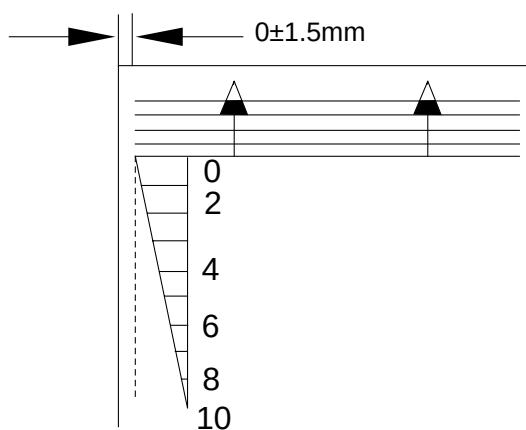

Figure 5-833
Remove the deck front cover, and loosen the two mounting screws ① on the left and the right of the deck; then, shift the latch assembly ② to the front and rear until the position is as indicated in Figure 5-833.